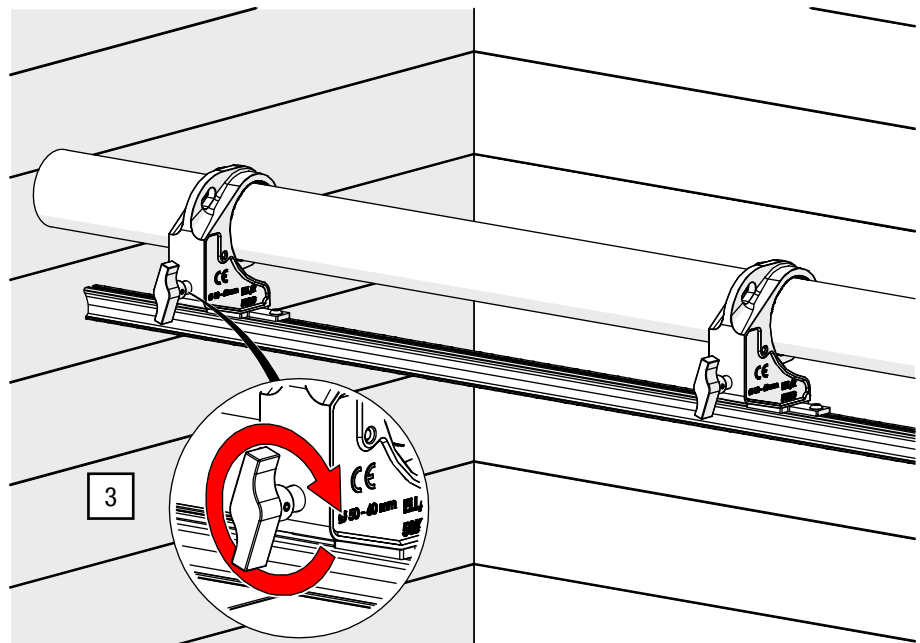

Fig. 46: G-CLAMP direct – Secure on pipe
3. Secure the G-CLAMP hand-tight on the pipe (see Fig. 46).